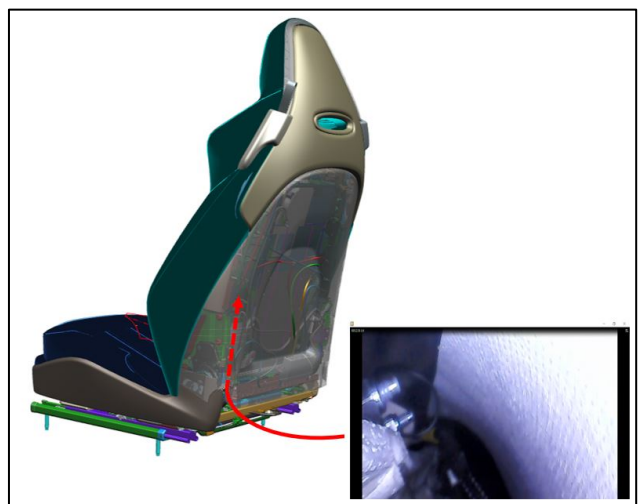

Figure 3
3. Use an endoscope on the underside of the seat to examine the two locking nuts for the seat airbag (refer to Figure 3).